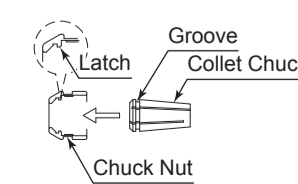
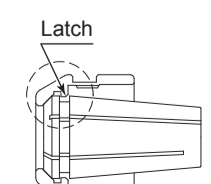

Fig. 6
Fig. 7
- ③ To install the collet chuck, hold the collet chuck at a slight angle, and insert it into the chuck nut (Fig. 6). Press the collet chuck in the chuck nut by positioning the collet chuck in the chuck nut and pressing down on flat surface (Fig. 5). Be sure to fully engage the latch inside the chuck nut into the groove on the collet chucks outer circumference area (Fig. 7).